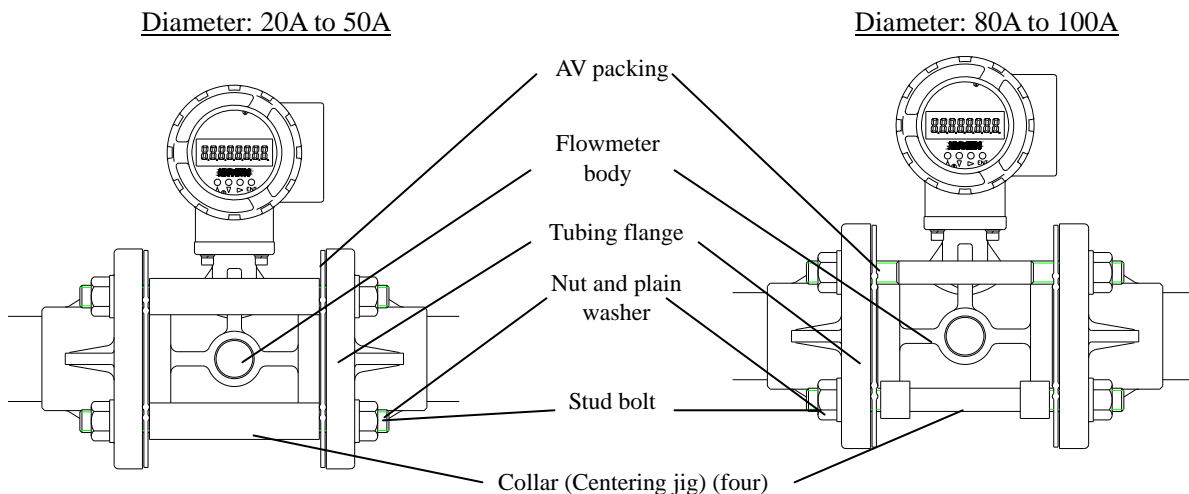

Figure 5-1 Recommended Torque Value
- (1) Set the flowmeter and an AV packing between the tubing flanges.
- (2) Pass a stud bolt from the connection flange on either side and then set the collar (centering jig) to locate the central position of the flowmeter as shown in Figure 5-1. Insert plain washers and nuts from both tubing flanges and clamp them finger-tight.
- (3) Tighten the tubing gradually in diagonal direction to reach the specified torque (see Table 5-1) using a torque wrench.